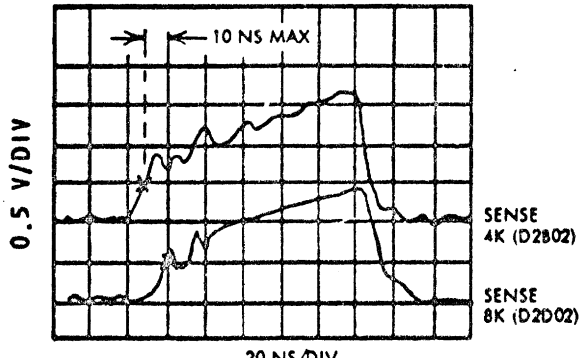

FIGURE 3
1B. THE DIFFERENCE BETWEEN THE LEADING EDGES OF THE STROBES MEASURED AT THE 0.5 VOLT LEVEL WITH RESPECT TO THEIR BASELINES, SHOULD BE LESS THAN 10 NS, (FIGURE 3) OTHERWISE REPLACE CARD D2
B. THE DIFFERENCE BETWEEN THE LEADING EDGE OF THE STROBES MEASURED AT 0.5 VOLT LEVEL WITH RESPECT TO BASELINES SHOULD BE LESS THAN 10 NS (FIGURE 3). OTHERWISE, REPLACE CARD D2